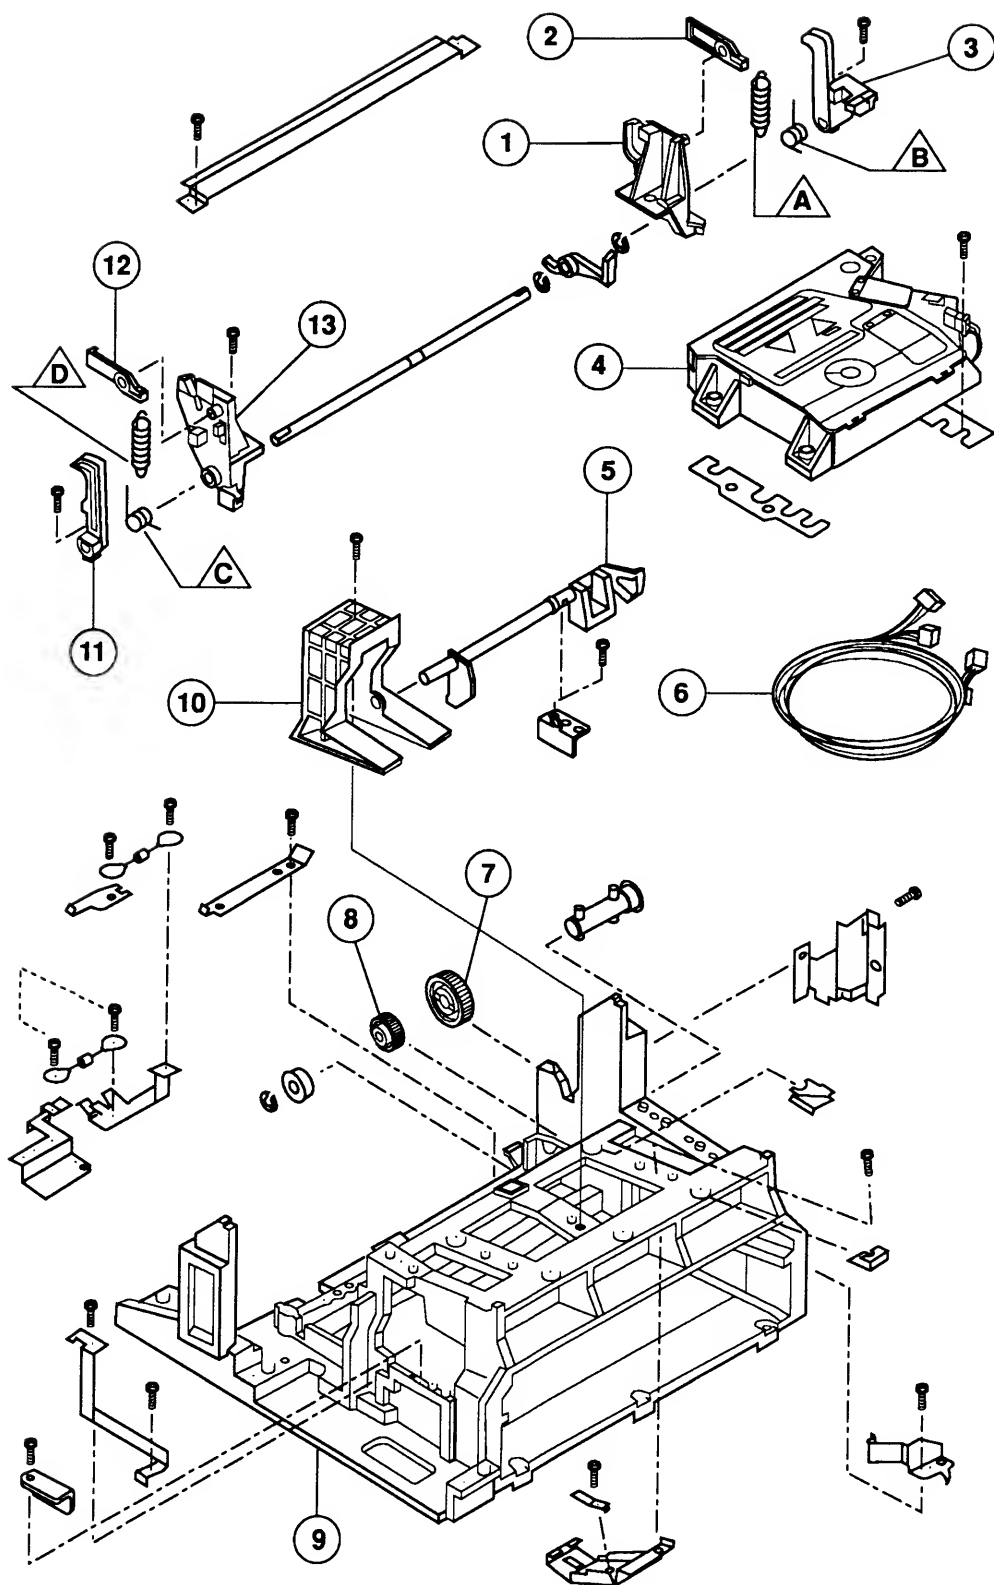

FIGURE 13
□ CASSETTE HOLDER ASSEMBLY (Figure 13)